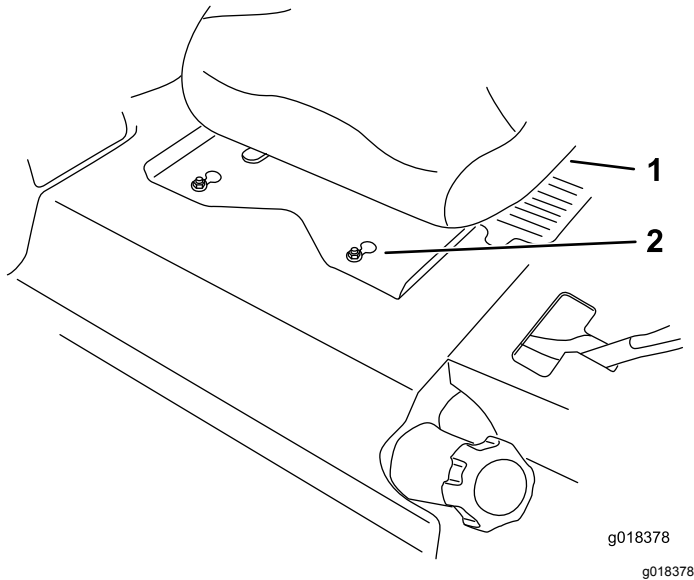

Figure 67
7. Slide the seat and seat plate forward to allow the front nuts to go through the key hole (Figure 67).